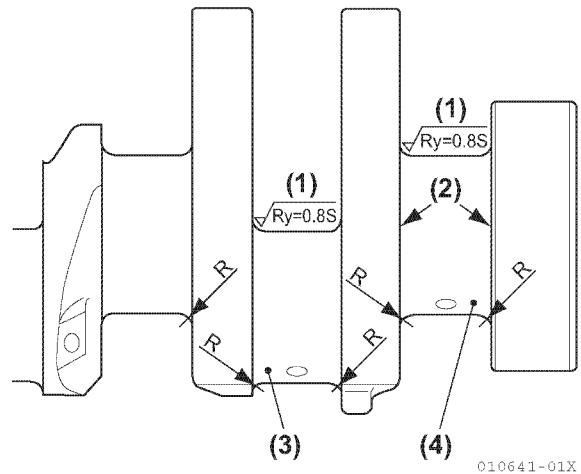

Figure 5-110
- Use dimension R for grinding the crankshaft journals and pins (**Figure 5-110**) below.